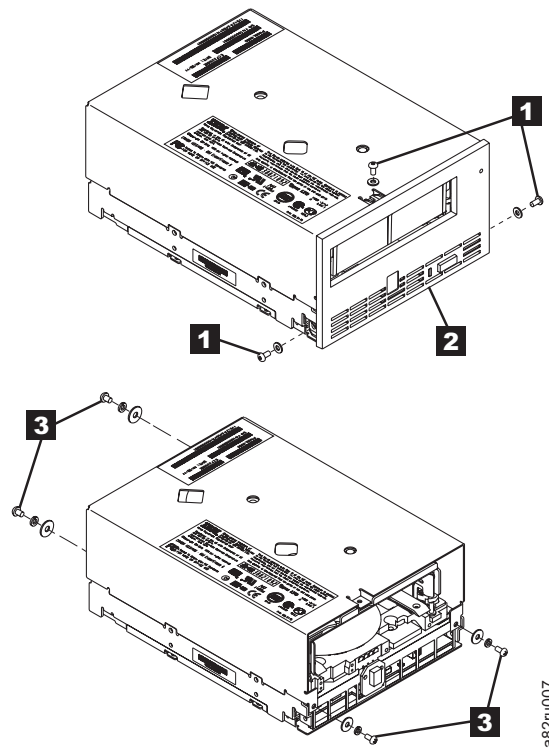

Figure 8-82. Removing the cover from the internal drive
- a. Using a Phillips screwdriver, remove the three screws and washers (see **1** in Figure 8-82 on page 8-83) that secure the bezel (see **2**) to the internal drive, then remove the bezel.